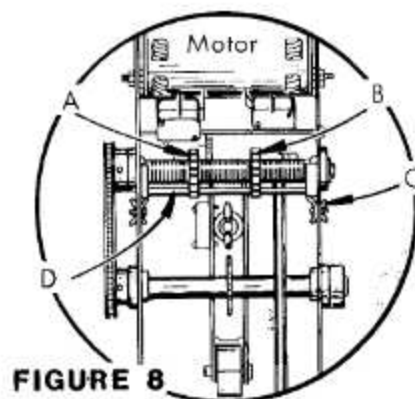
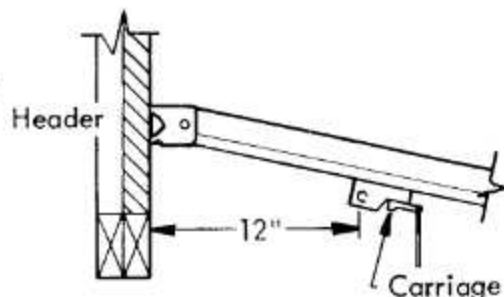
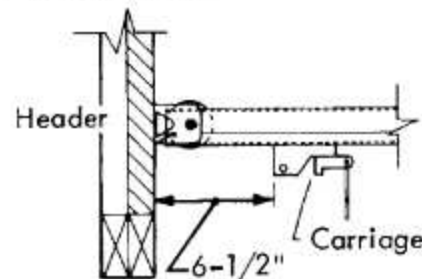

FIGURE 8
FIGURE 9
FIGURE 11
9 Refer to Figure 8. Adjustments to the limit switches are made by loosening Wing Nuts "C" and moving Rod "D" away from the travel Nuts. Adjust Travel Nut "A" for the up limit and Travel Nut "B" for the down limit. Moving a travel nut one full turn toward its switch will cause the carriage to travel approximately 4 inches less in that direction and vice versa if the travel nut is moved away from its switch. NOTE: After each adjustment of a travel nut and before starting the operator, make sure that Rod "D" is properly seated in the slots of both Travel Nuts and that both Wing Nuts are securely tightened.
- 10** Operate the push button so that carriage will stop in its full forward position. If the distance between the carriage and front wall is not as shown in Figure 9, adjust travel nut "B" (Figure 8, Page 5) until carriage stops approximately 12" from front wall.
- 12** Adjust travel nut "A" (Figure 8, Page 5) so that the door will stop in an open position with the bottom of the door even with the top of the door opening.
- 10** Operate the push button so that carriage will stop in its forward position. If the distance between the carriage and front wall is not as shown in Figure 11, adjust travel nut "B" (Figure 8, Page 5) until carriage stops approximately 6-1/2" from the front wall.